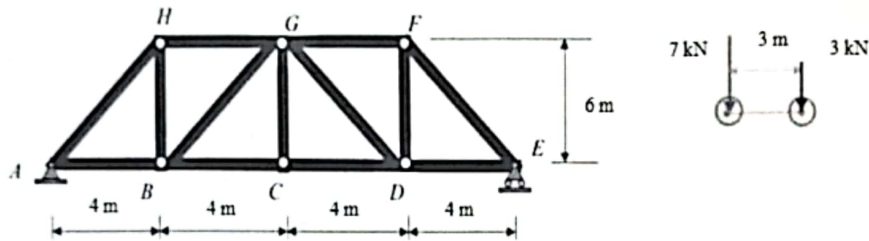

Fig. 7
6. a) State and prove general cable theorem. (16) 4
b) Determine the maximum force developed in member BC, BG, and CG of the truss shown in Fig. 7 due to the wheel loads of the car. Assume the loads are applied directly to the truss. (24) 3